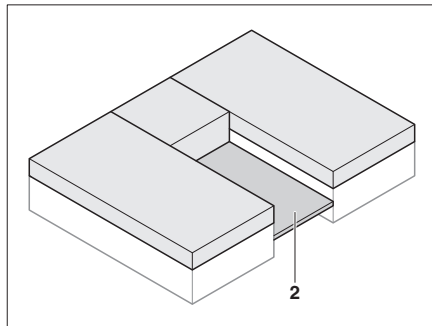

Fig. 78 Pull out slatted frame
- Pull out the slatted frame (Fig. 78,2) between the single beds.